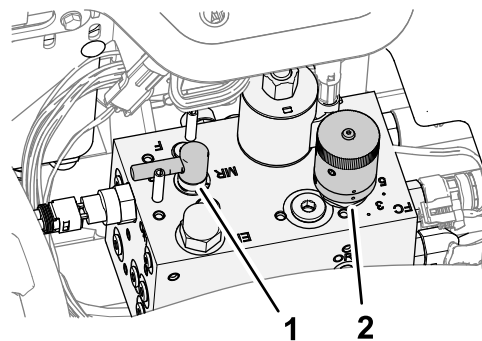

Figure 88
4. Move the backlap lever to the R (backlap) position (Figure 88).